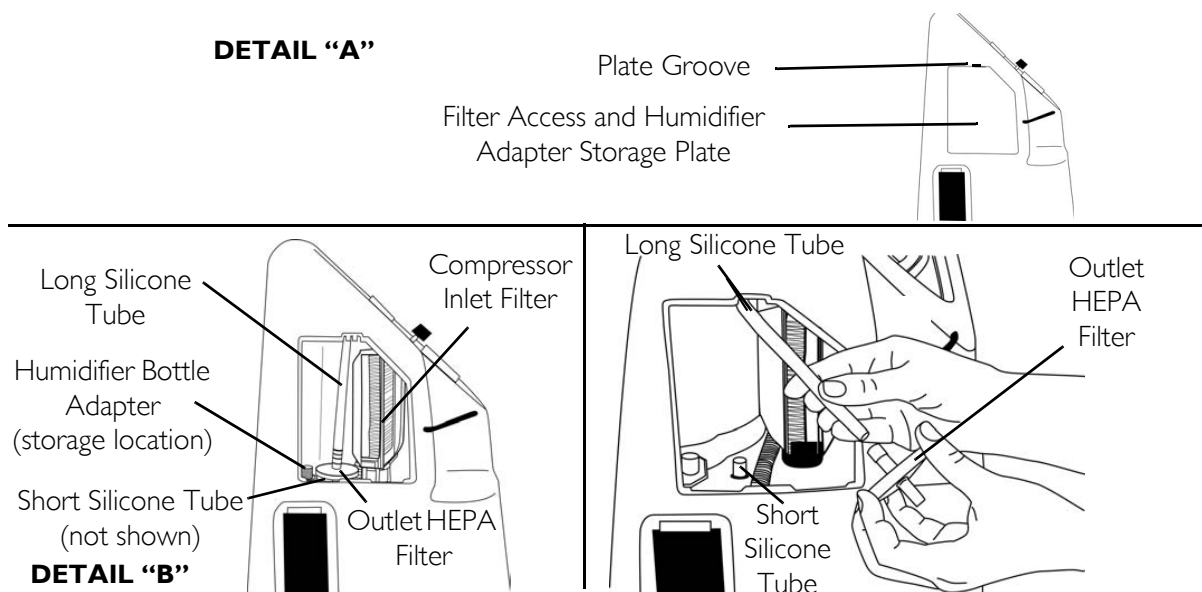
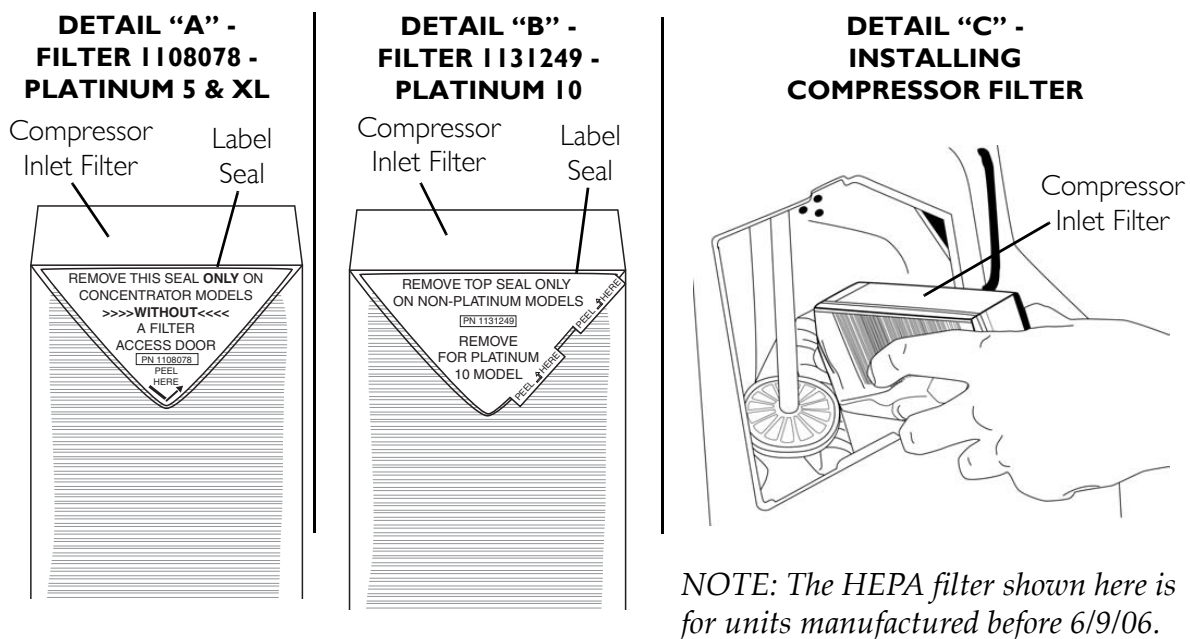

FIGURE 6.2 Replace the Outlet HEPA Filter before 06\09\06
FIGURE 6.4 Replacing the Compressor Inlet Filter
NOTE: For this procedure, refer to FIGURE 6.2.
NOTE: For this procedure, refer to FIGURE 6.2 on page 27 and FIGURE 6.4.
3. Insert a flathead screwdriver in the plate groove on the top edge of the plate and gently pry the humidifier adapter storage plate open to remove the plate. Refer to Detail "A" in FIGURE 6.2.
- For Platinum 5 and XL: Leave the entire label on p/n 1108078 (Detail “A” of FIGURE 6.4).
- For Platinum 10: Remove the lower half of the label on p/n 1131249 (Detail “B” of FIGURE 6.4).
8. Install new compressor inlet filter by inserting the filter opening into the rubber base (Detail “C” of FIGURE 6.4).